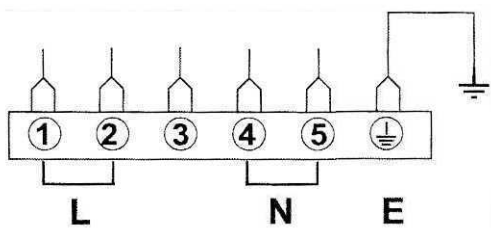
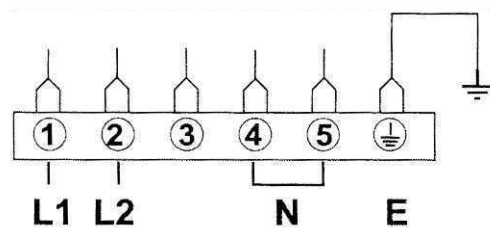

Fig. 16A ASX60DO - Single phase Connection
Fig. 16B ASX60DO - 2 phase Connection
- For ASX60DO please follow connection shown in Fig. 16A single phase or Fig. 16B two phase.